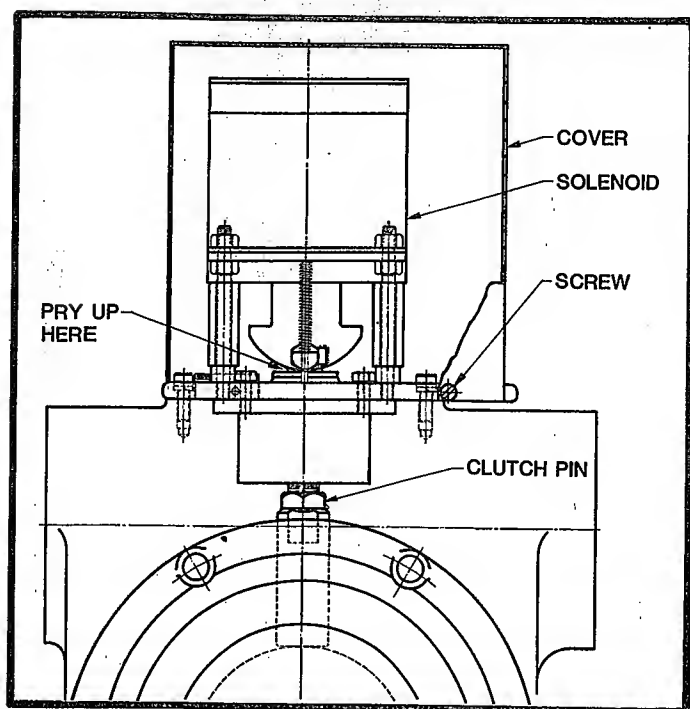

FIGURE 63
- C. Machines equipped with a solenoid operated clutch: Remove the solenoid cover and pry up on the clutch pin. Refer to Figure 63.
- c. Shears with electric solenoid clutch control - Remove solenoid cover and use small pry bar to raise clutch pin (See Figure 63).